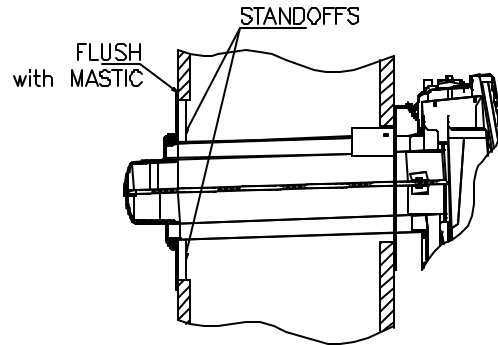

Figure 17
3. The hole at the outside of the wall must be a square of 11 ½ (290 mm) x 11 ½ (290 mm). (See figure 17).
5. Slide pipes (B) and (C) through the hole in the wall, and connect them to the appliance flue outlet and air intake, respectively.
6. The outdoor mounting plate and the silicon-rubber ring should be installed between the vent cap and the exterior wall. The plate must be positioned flush to the wall and with its standoffs inserted into the wall and sealed with a non-hardening mastic (silicone caulk). (See figure 17).
7. Before attaching the vent cap to the exterior wall, run a bead of non-hardening mastic (silicone caulk) around its outside edge, so as to make a seal between it and the plate. (See figure 17).